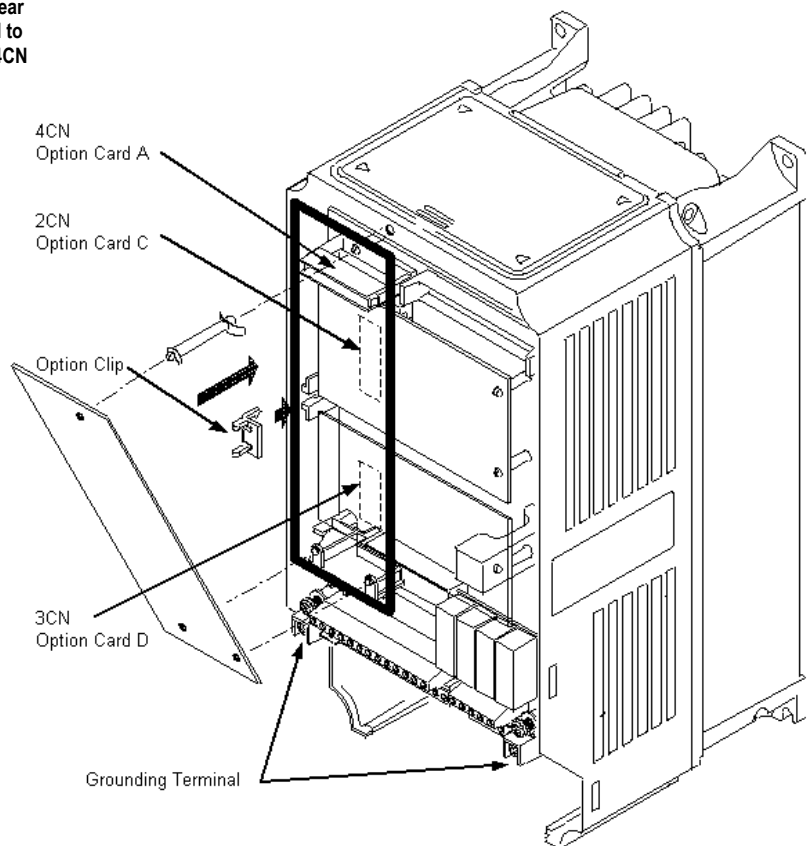

Figure 2. PG-X2 Option Card installation
- If other option cards are to be installed at the Option C or Option D positions (See Figure 2), their installation and wiring should be completed before installation of this option.
6. Insert the spacer into the mounting hole in the base of the drive, just above the top edge of the control board. See Figure 2.
7. **Circuit Board Installation.** See Figure 2.